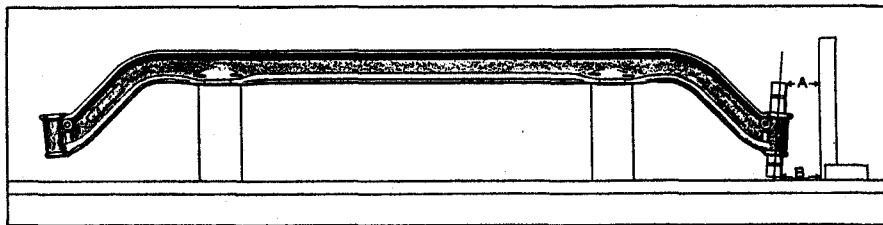

Fig. 106. Front Axle Inverted for Testing Angles
This may be tested by inserting the spindle bolts in their holes and placing the axle upside down upon parallel bars under the spring seats, (See Fig. 106). Then with a square, take dimensions (A) and (B) at the ends of the bolt. The difference between (A) and (B) should be  $\frac{5}{64}$  inch.